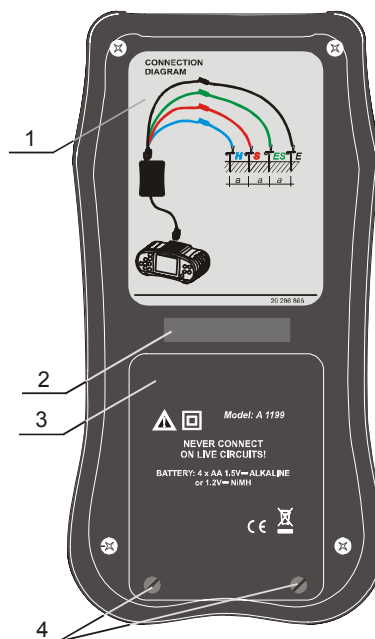

Figure 3.3: ρ -Adapter back site
- Put the ρ -Adapter on desktop with backside up (*figure 3.3*).
- Remove screws (*pos. 4 on figure 3.3*).